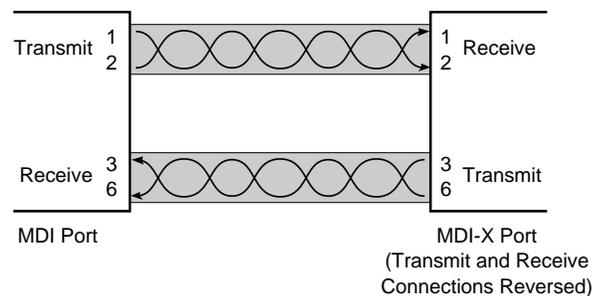

Figure A-3. Internal Crossover Function
- Internally, designed as part of the circuitry in the 10BASE-T device (see Figure A-3)